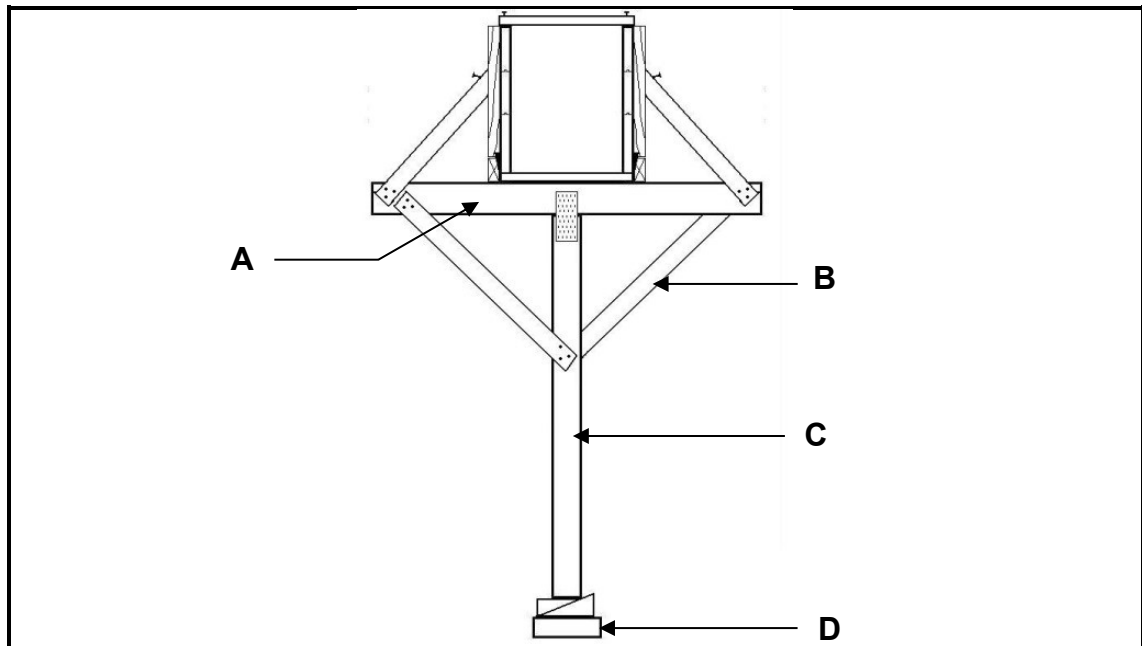

FIGURE 6.2
- 6.2 Name the parts **A** to **D** of to the formwork in FIGURE 6.2. (4 x 1) (4)